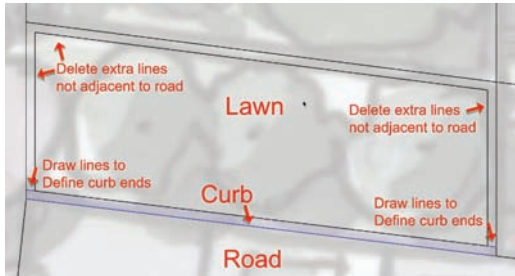

Fig. 7-26: Define ends of curb locations. Delete extra lines created from using the Offset tool.
- b. Draw perpendicular lines between the edge of the road and the offset line at locations where the curb would end; curbs should be located only adjacent to the road (Fig. 7-26). Repeat this step for